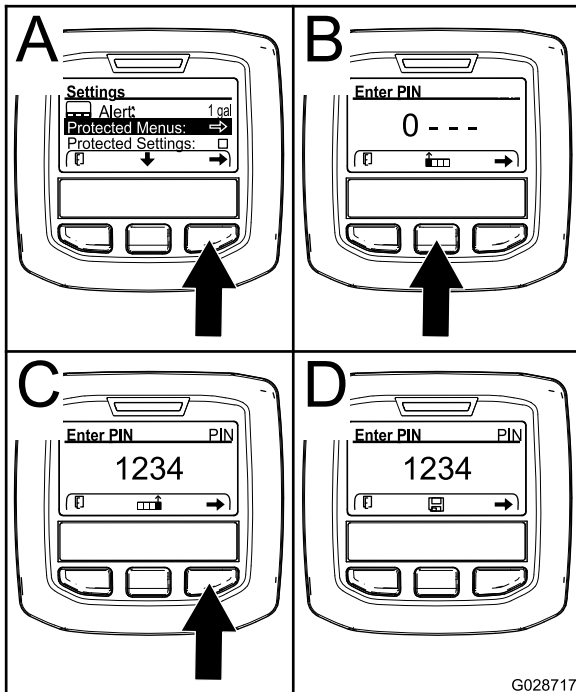

Figure 72
- Press the right select button to select Protected Menus (A of Figure 72).
- Press the center selection button (B of Figure 72) to increase the numerical value (0 to 9)
- Press the right selection button (C of Figure 72) to move the cursor to the next numerical position to the right.
Note: The Save icon will appear above the center selection button (D of Figure 72).